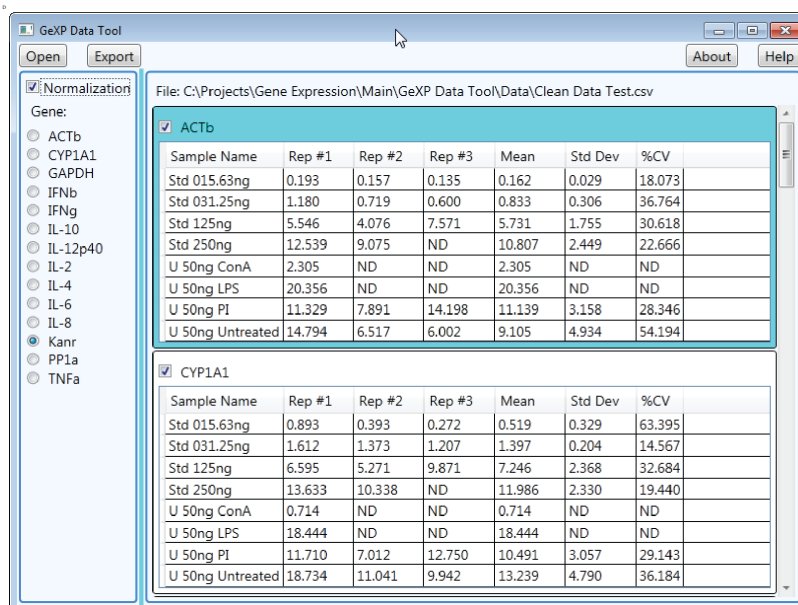

Figure 7.25 Gene election for Normalization
1. Select the check box next to “Normalization.” Refer to Figure 7-25
The default normalization gene is defined as Kan^r. An example is shown in Figure 7.25.